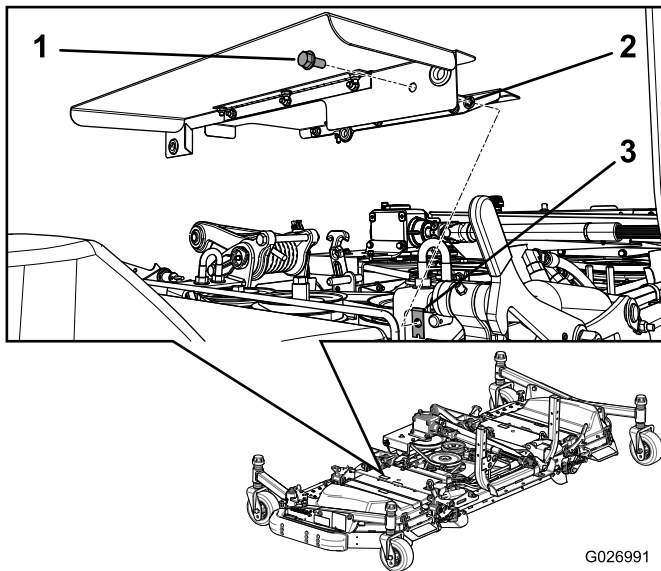

Figure 20
2. Flange nut (3)
4. Bolt (3)
5. Install a bolt and a push nut to the shield (Figure 20).
6. Install the combined covers onto the deck (Figure 20).